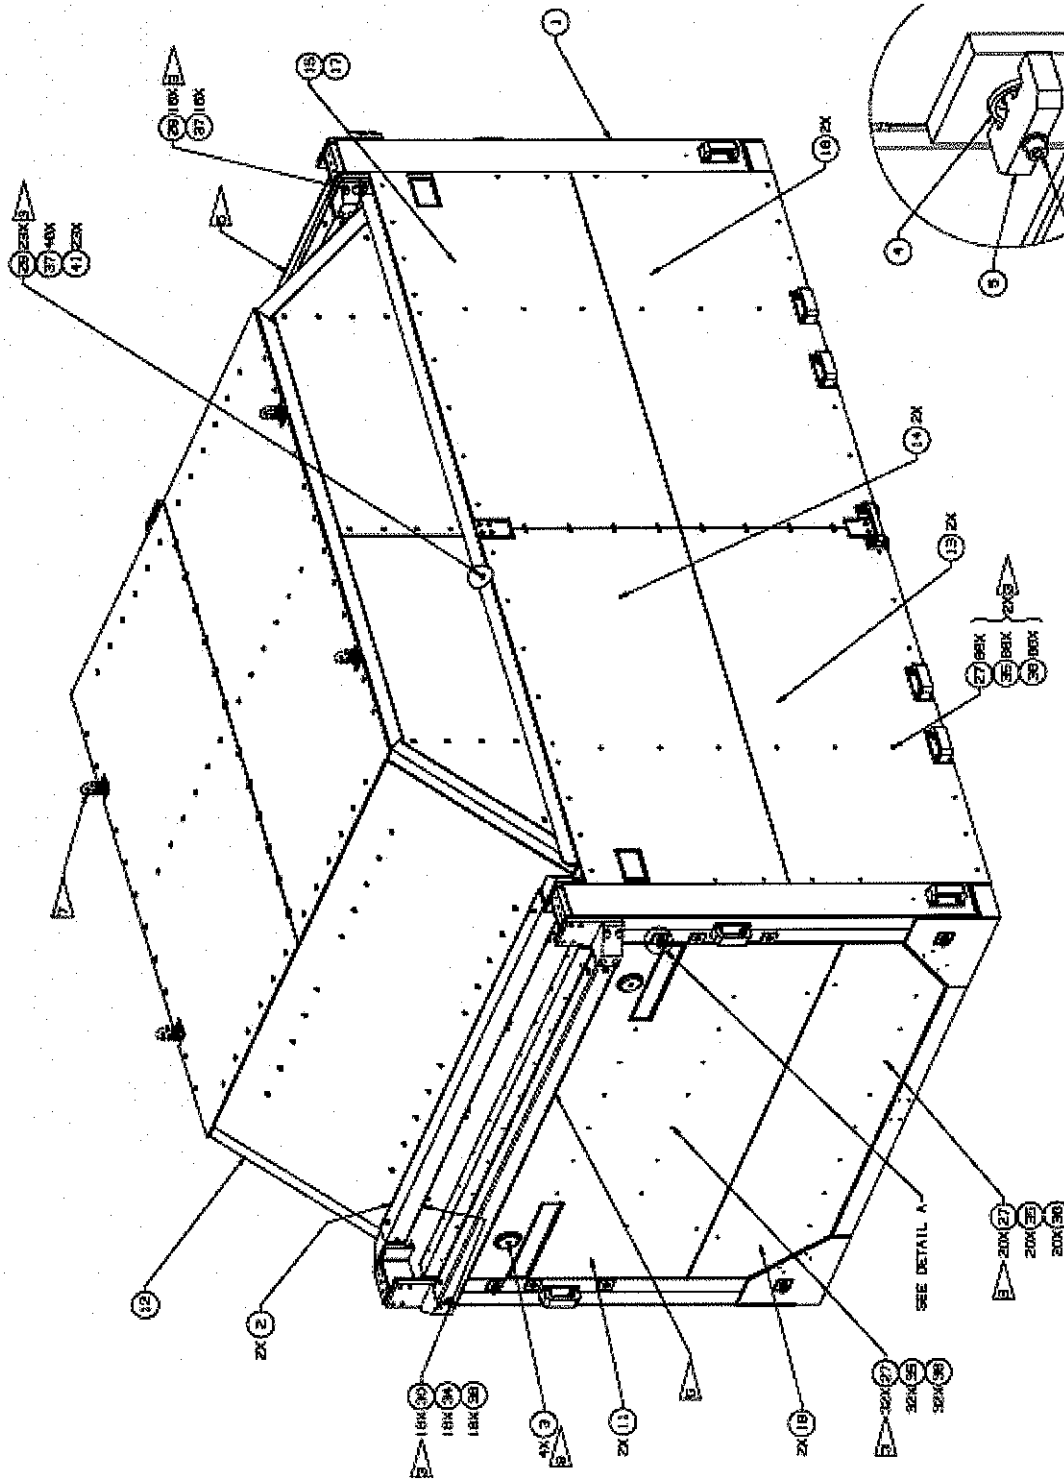

Figure 1 (View Rotated 90° Counter Clock Wise)
Using figure 1 as a reference, remove cover panels identified by balloons 13 through 18. Store all fasteners, NAS1351N3LB12, item 27, lock spring washers, MS35338-138, item 35, and flat washers, NAS1149E0332R, item 36 resulting from the panel removal in separate plastic bags.
5. Using figure 1 as a reference, remove the two (2) Sliding Frame Cover Assembly, SEG38117068-301, item 11. Store all fasteners, NAS1351N4LB20, item 30, lock spring washers, MS35338-139, item 38, and flat washers, NAS1149E0432R, item 34 resulting from the panel removal in separate plastic bags. Mark on bag the panel from which the fasteners and washers were removed.
6. Using figure 1 as a reference, disconnect the Cover Assembly, SEG38117057-301, item 12. Store all fasteners, NAS1958C70, item 28, countersink washers, NAS1587-8C, item 37, and self-locking nut NAS1291C8M, item 41 resulting from the panel removal in separate plastic bags. Mark on bag the panel from which the fasteners and washers were removed.